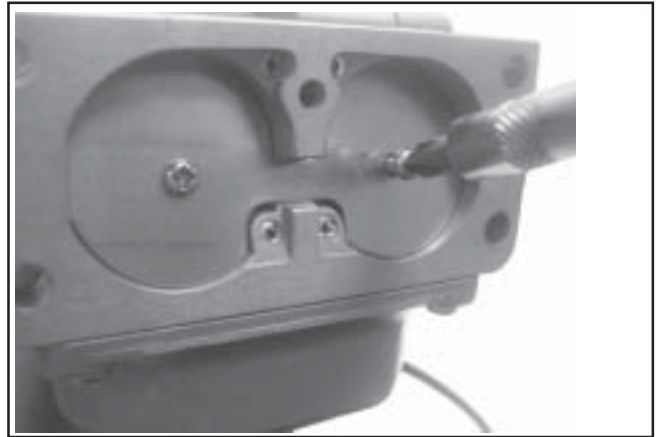

Figure 5-64. Installing Choke Plate.
- Place a drop of Loctite® on the threads of each new screw. Position and install the new choke plate to the flat side of the choke shaft. Start the two screws. Close the choke and check the plate alignment within the carburetor throat, then tighten the screws securely. **Do not overtighten.** See Figure 5-64.